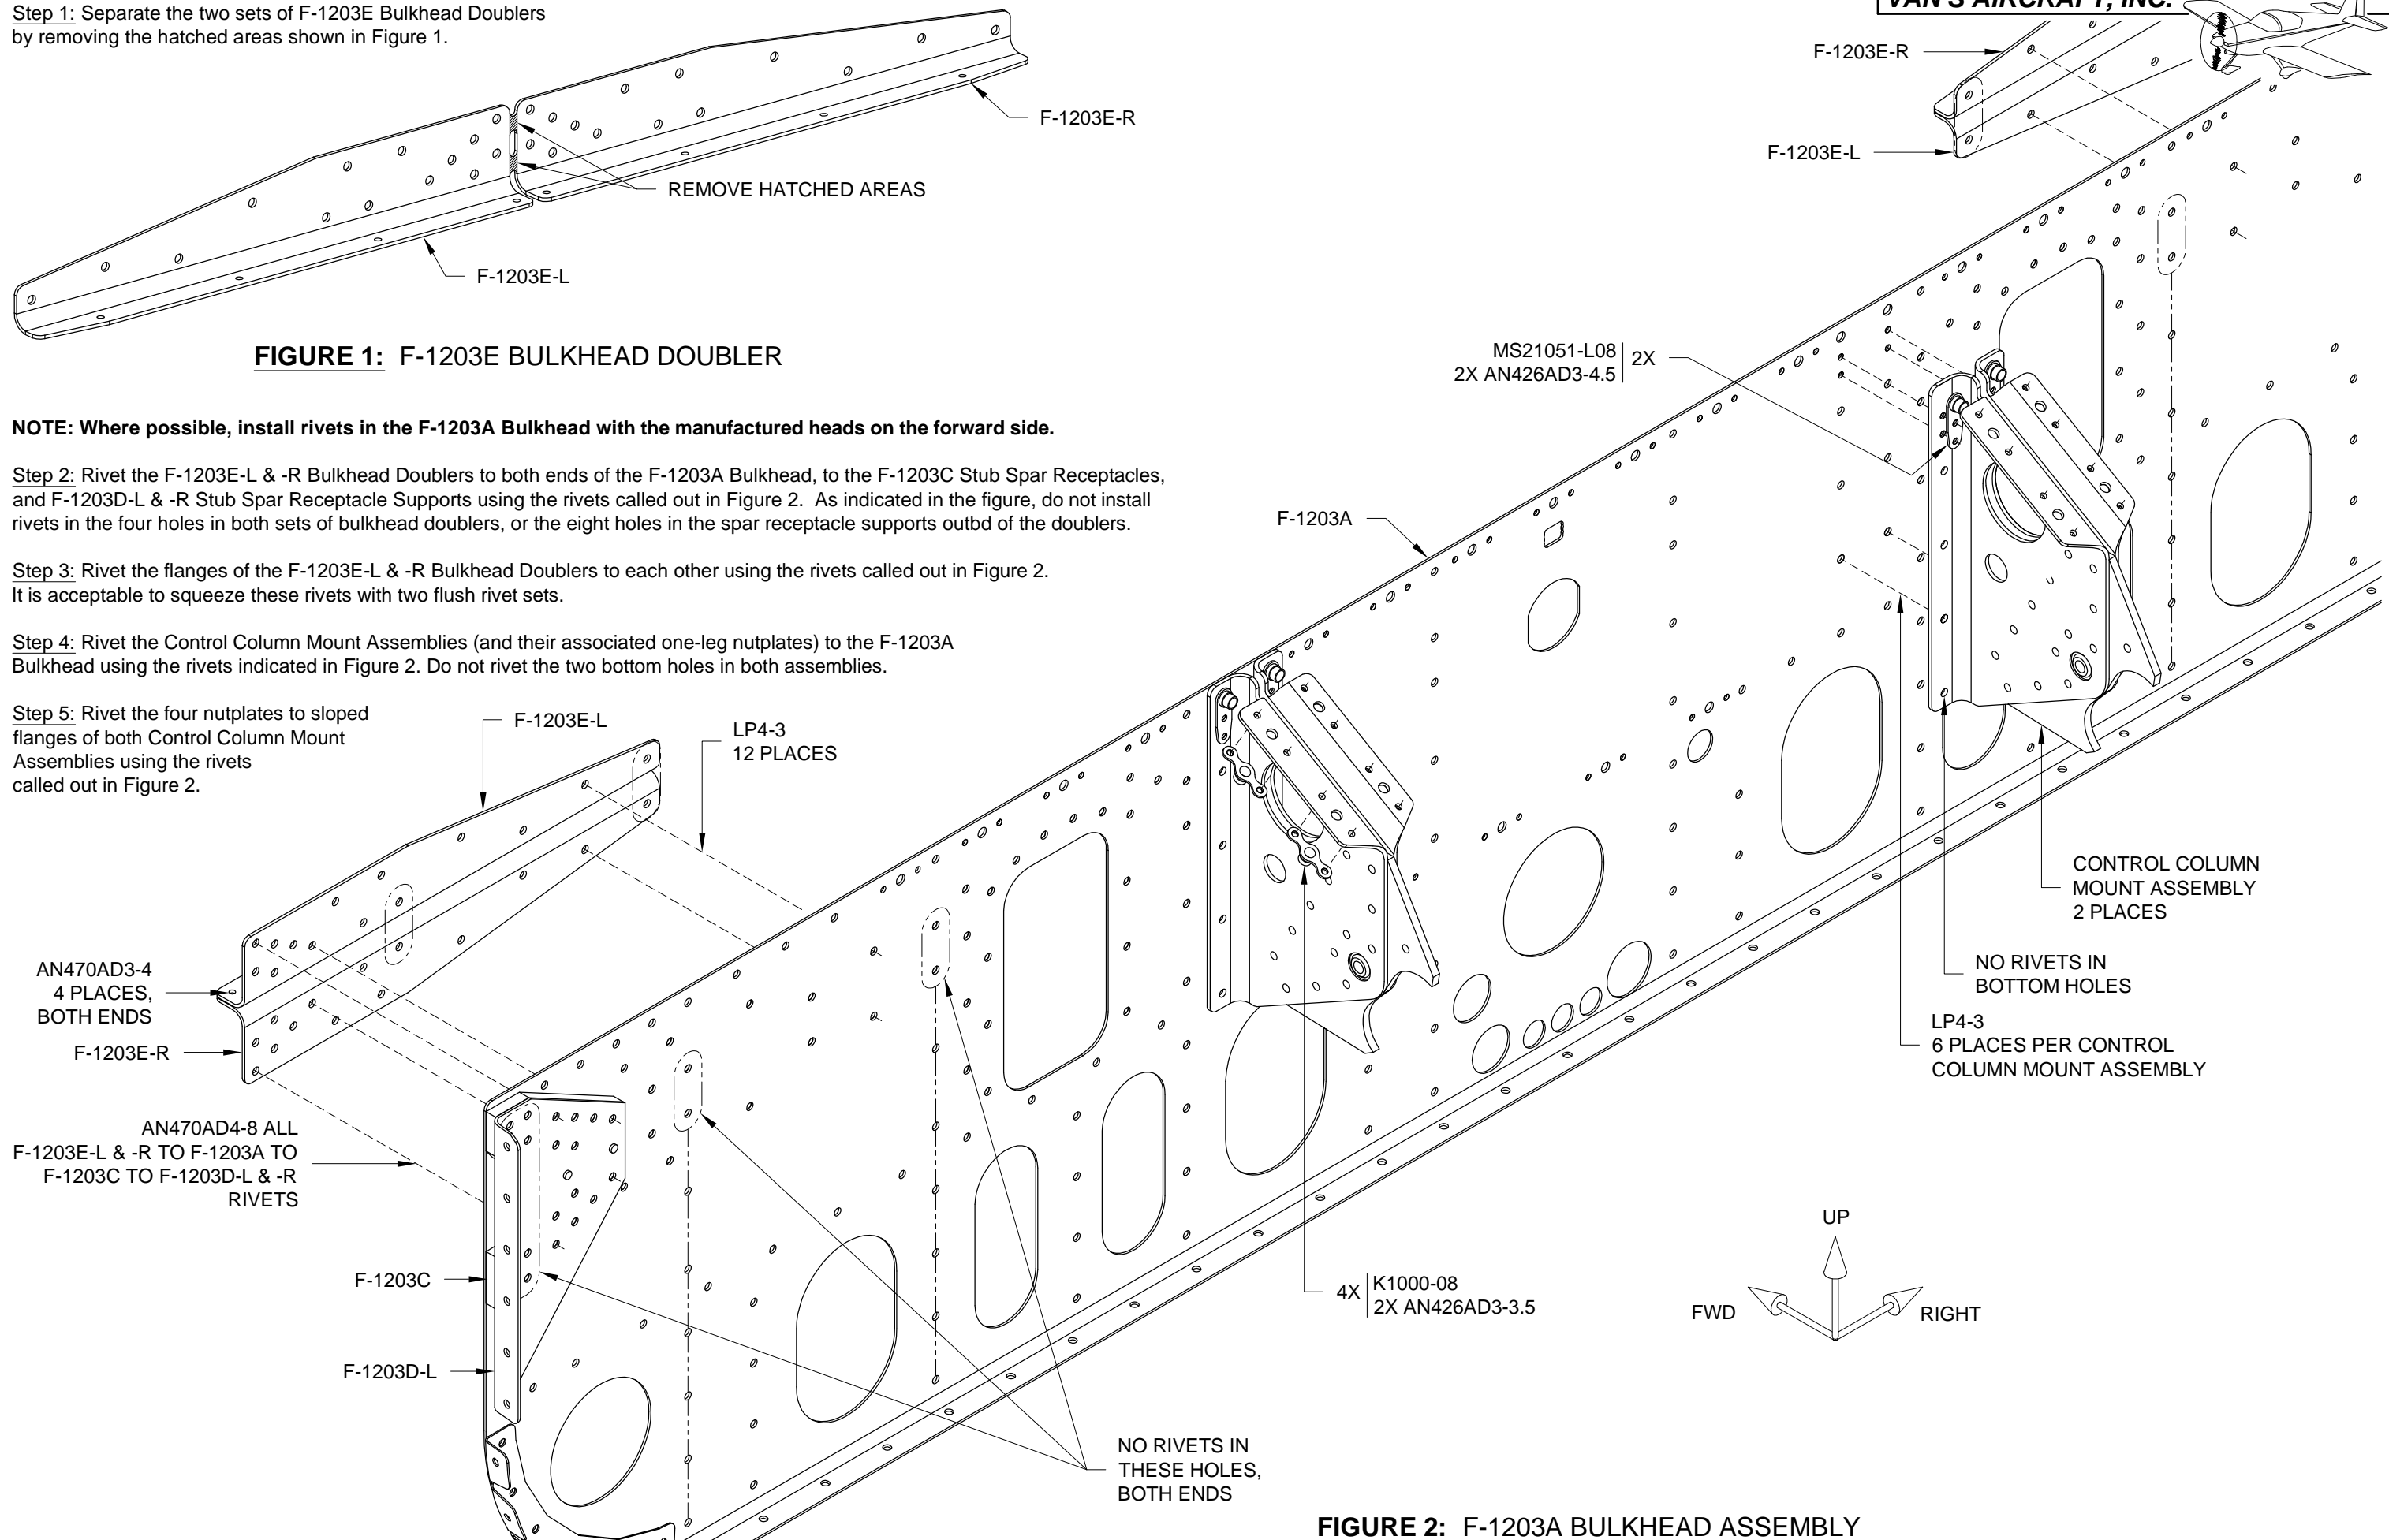

FIGURE 2: F-1203A BULKHEAD ASSEMBLY
Step 3: Rivet the flanges of the F-1203E-L & -R Bulkhead Doublers to each other using the rivets called out in Figure 2. It is acceptable to squeeze these rivets with two flush rivet sets.
Step 4: Rivet the Control Column Mount Assemblies (and their associated one-leg nutplates) to the F-1203A Bulkhead using the rivets indicated in Figure 2. Do not rivet the two bottom holes in both assemblies.
Step 5: Rivet the four nutplates to sloped flanges of both Control Column Mount Assemblies using the rivets called out in Figure 2.